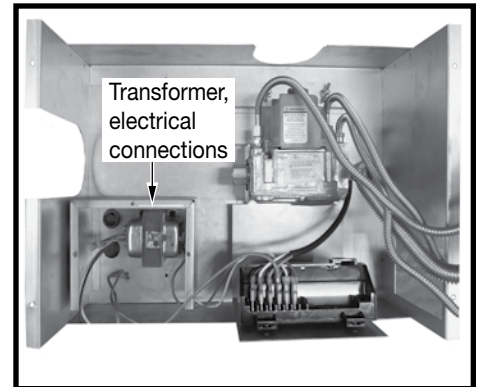

Figure 21: TC42 outdoor control with transformer.
5. Run one 110 V. AC switched electrical supply to the control box and connect to the transformer installed inside the control box (Figure 21). The fireplace operates on 24V AC supplied by a transformer rated at 110 volts, 60Hz. See wiring diagram on page 38 for correct connections to the transformer.